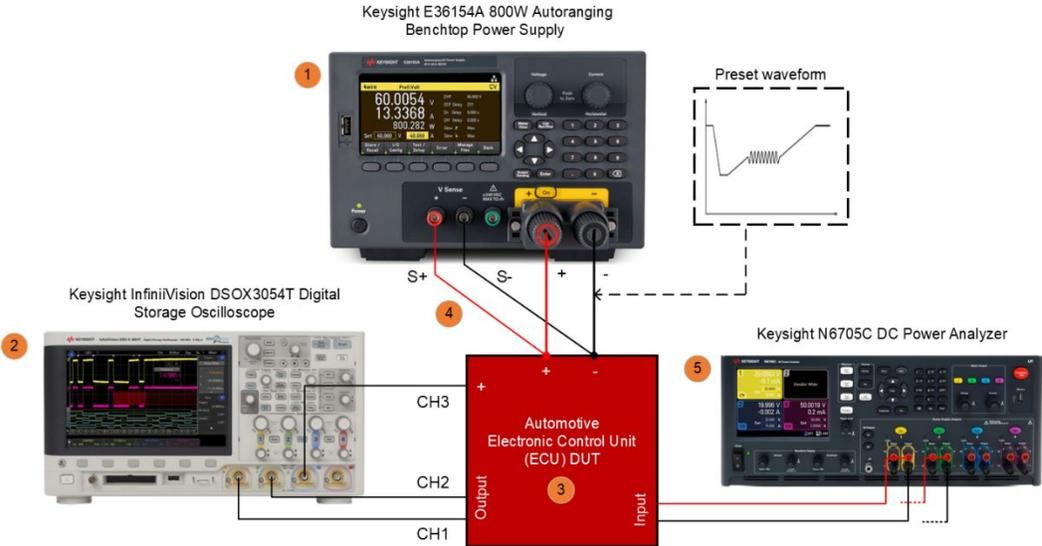

Figure 3. Simplified hardware connection diagram for the bench test.
As shown in Figure 3, two of the ECU signal outputs –ignition spark (channel 1) and fuel injector (channel 2) signals, are connected to the Infiniivision oscilloscope as these are the resultant signals of the cranking operation to be probed. The 12V signal from the E36154A power supply is also connected to the oscilloscope's channel 3 to trigger the start of measurement. Once it detects the ISO waveform, the oscilloscope can immediately capture the ignition and fuel injection signals.
As shown in Figure 3, you must first establish a hardware connection to proceed with the bench test. The following are quick steps to view and select the available ISO waveforms:
- Press the **On** and **List Run/Stop** button on the power supply's front panel to generate the waveform after modifying the waveform parameters. The ECU will be powered up. Subsequently, the two pre-configured signals in the earlier step, as shown in Figure 3, will be triggered to start feeding the sensor emulation signals to the ECU with Keysight BV9201B PathWave BenchVue Advanced Power Control and Analysis software.